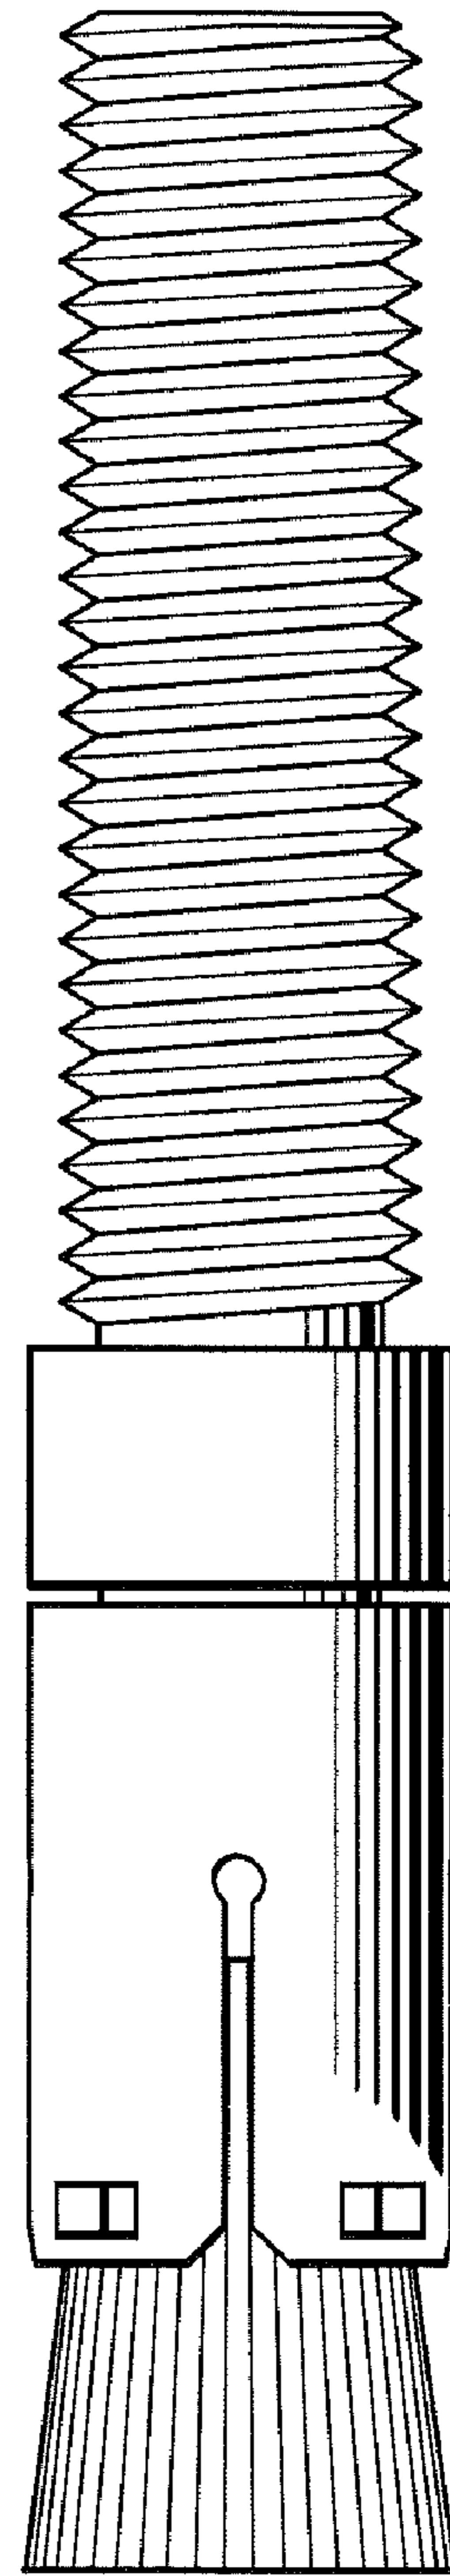

Fig. 14
- FIG. 14 is a side view of the stud having longitudinal ridges;